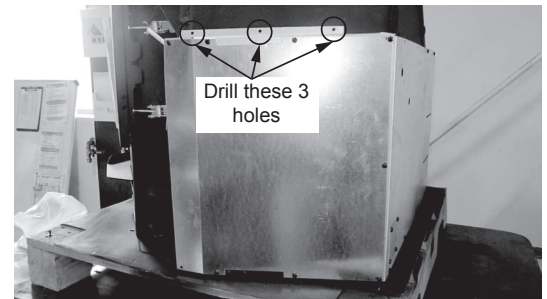

Figure 21.7
10. Using the electric drill with #26 drill bit; drill 3 holes into the hopper. Add three screws to secure shroud assembly to the appliance (**Figure 21.7**).